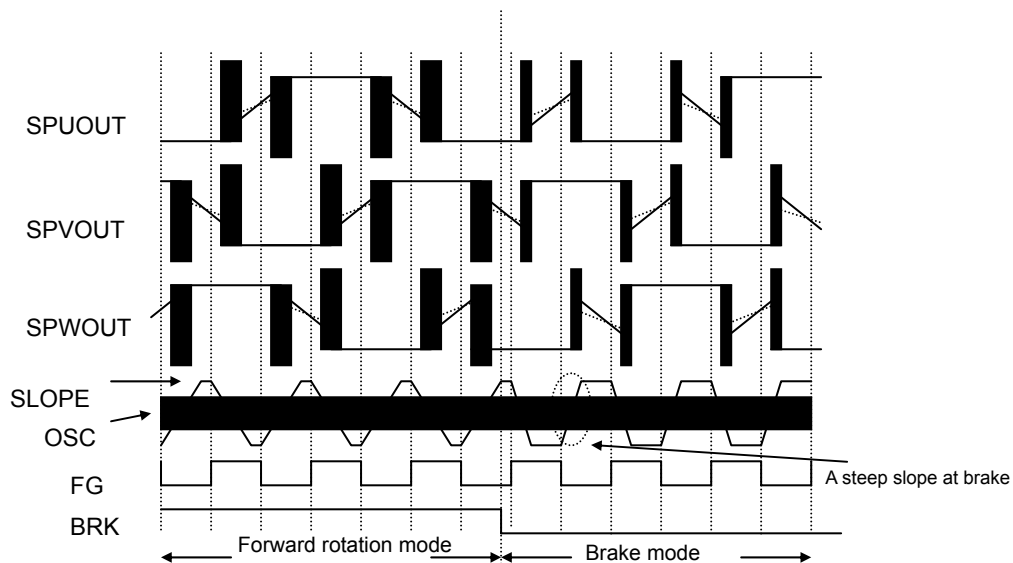

Fig. 15 Each pin waveform at brake (Same as at PWM.)
3) Brake operation (Fig. 15)
※Fig. 15 shows the waveforms for the BD6643KN. In BD6641KUT, only BRK signal is reversing.